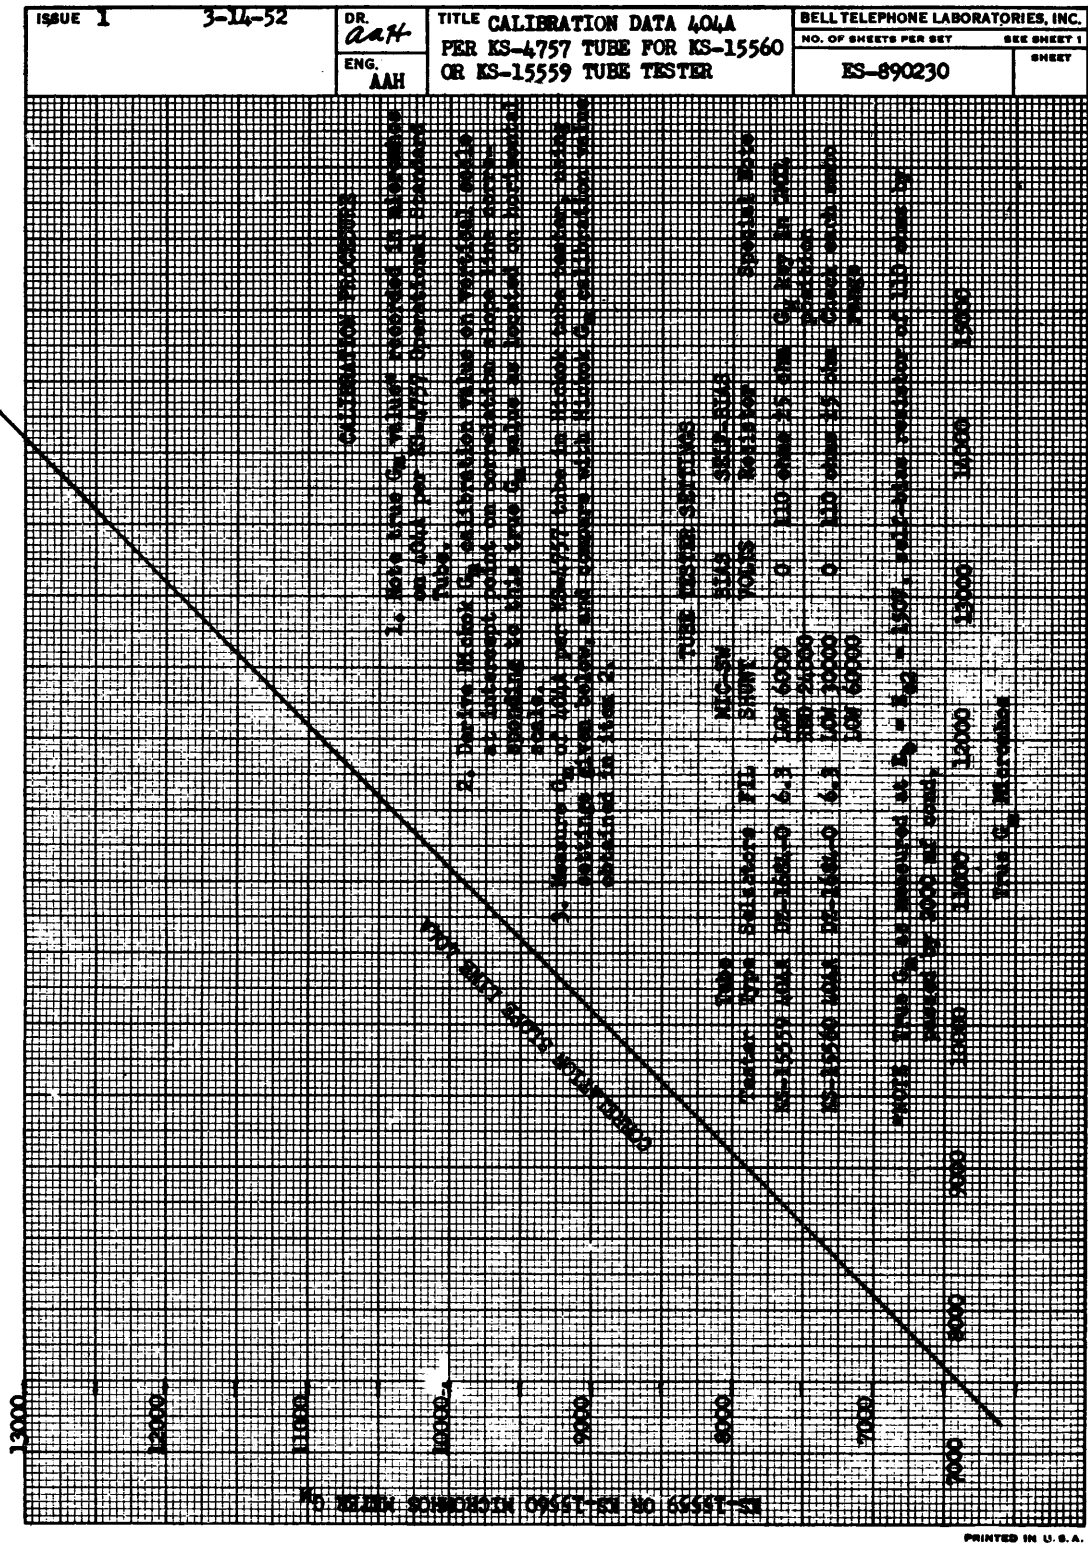

Fig. 8
5.11 LOW SIGNAL 24,000 (1/4-Volt) Grid Signal Test - Self Bias Operation: An operating test is made using a Western Electric Company operational standard 404A tube per KS-4757. The calibration chart (Fig. 8) for this tube is used to establish the Hickok Gm micromhos reading as described on this chart. This Hickok Gm value will be used as the standard value with which the measured Gm is compared. This operating test is made in accordance with the tube tester settings noted on the calibration chart (repeated here) with FIL ACT switch at NORM and the proper self bias resistor connected across the unstrapped SELF BIAS binding posts.